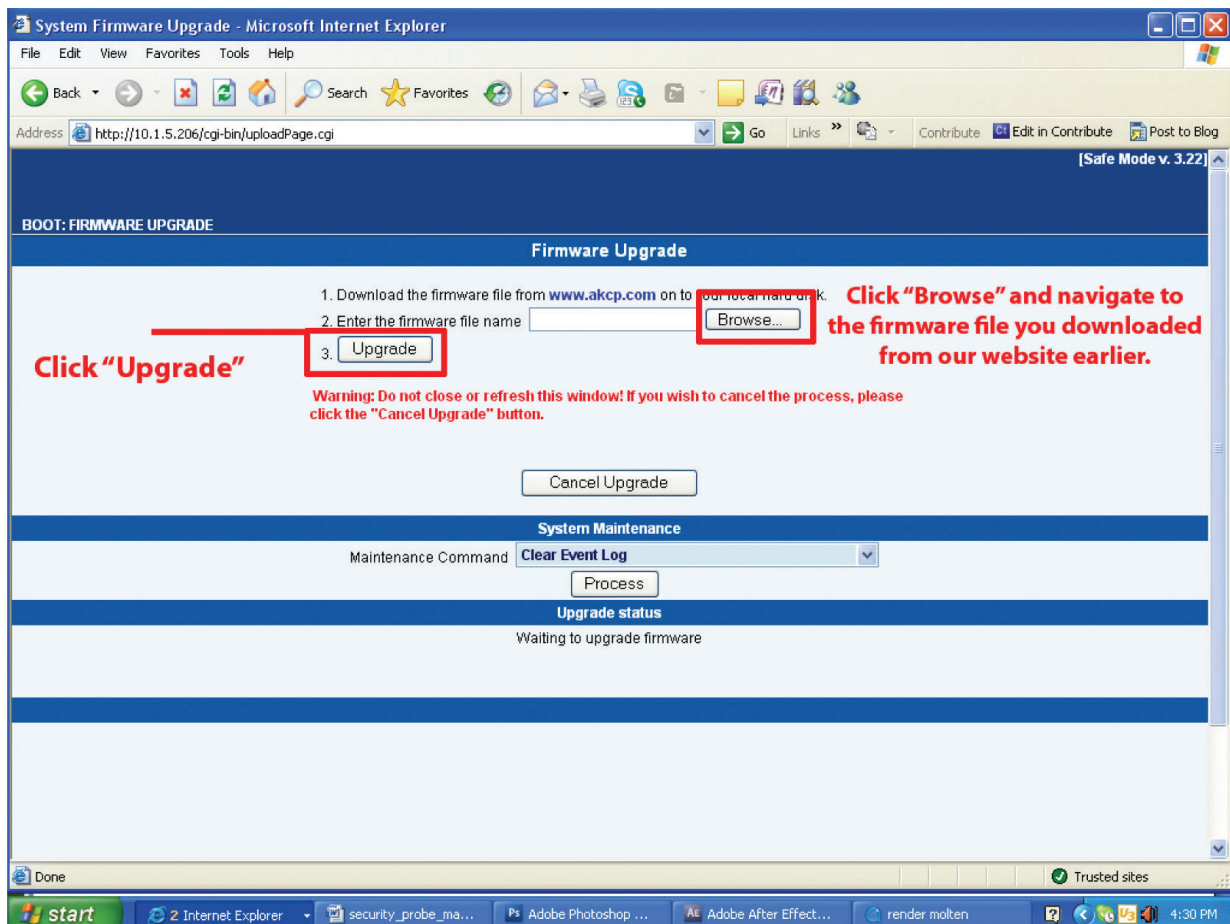

Figure 3-11. Upgrade button.
5. After the ServSensor reboots, the page shown in Figure 3-11 appears. Click "Browse" and navigate to the firmware file you downloaded, then click "Upgrade."